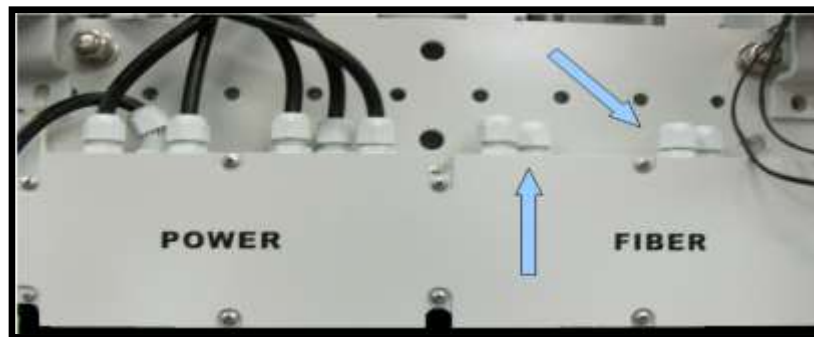

Figure 4-13. Junction Box
2. Route the free end of the drop cable to the enclosure through the junction box as shown in **Figure 4-13**.